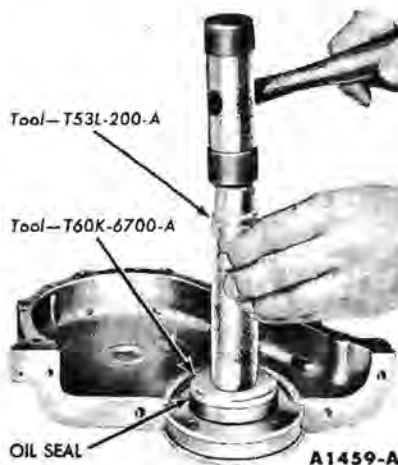

FIG. 28—Crankshaft Front Oil Seal Replacement
2. Coat a new seal with grease and install the seal. Drive the seal in until it is fully seated in the recess. (Fig. 28). Check the seal after installation to be sure the spring is properly positioned in the seal.